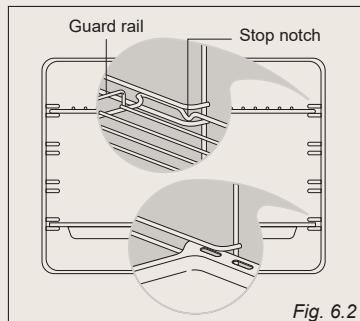

Fig. 6.2
- \* Slide in, on the guides, the shelf and the tray (fig. 6.2).